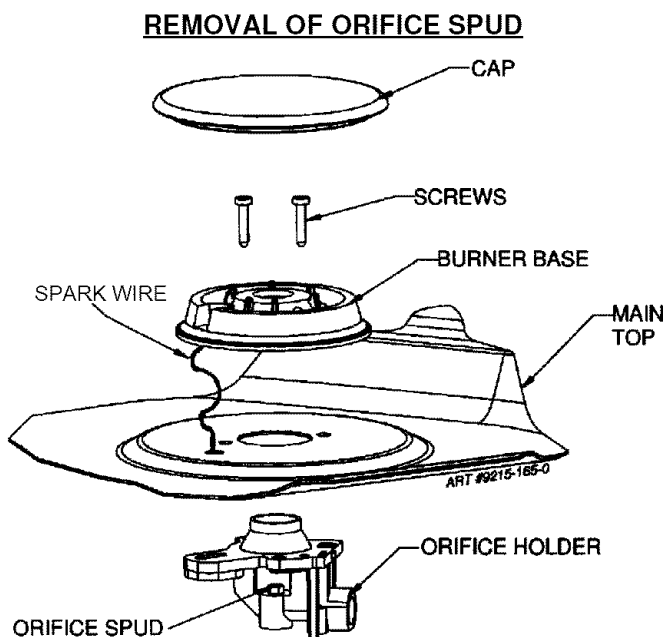

FIGURE 7
Step 2: Remove burner base by removing 2 (T-15) 6-lobe screws. (See figure 7). Leave spark wire attached to base.
Step 3: Firmly press 9/32" (or 7mm) **nut driver** over the orifice spud (figure 7) and loosen spud by turning counterclockwise. Carefully lift nut driver out of burner throat. Orifice spud should be captured in the recess. Repeat this step for each burner.